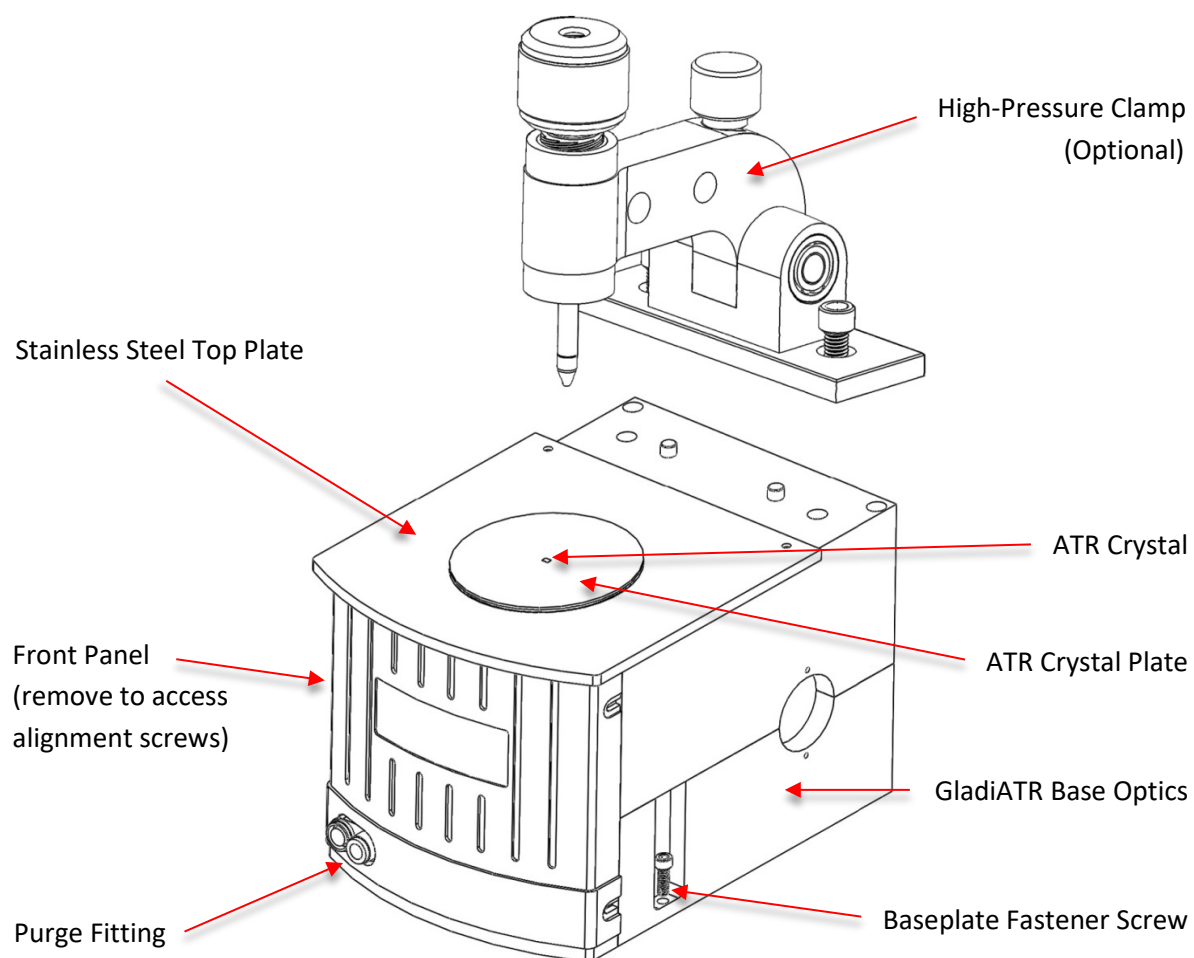

Figure 1. Assembly view of the GladiATR ATR accessory
5. If purging is required, press the blue tubing included with the GladiATR into the quick-disconnect port located on the front of the base optics (Figure 1). To remove the tubing, press the black ring of the opening in and pull the tubing out.
(Figure 1). In order to locate the accessory in the correct position, simply place the entire accessory into the FTIR sample compartment with the GladiATR label facing the front and line up the baseplate provided with the holes/pins in your model FTIR spectrometer.